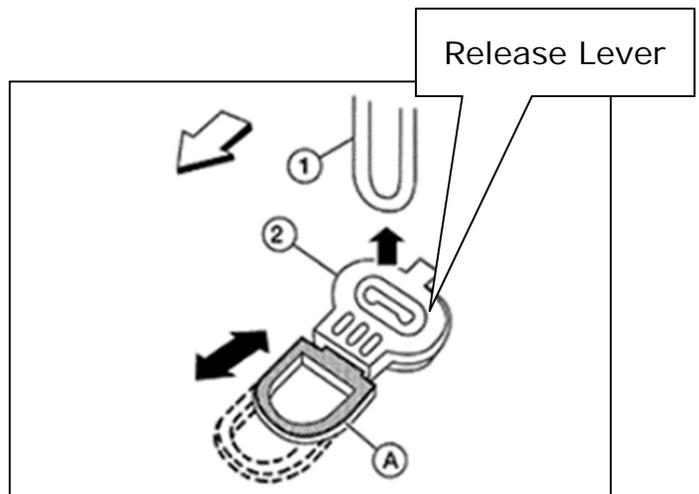

Figure 4
- b. Pull the release lever (A) forward and lift the seat cushion upward to release seat cushion wire (1) from the seat cushion lock (2) (see Figure 4).